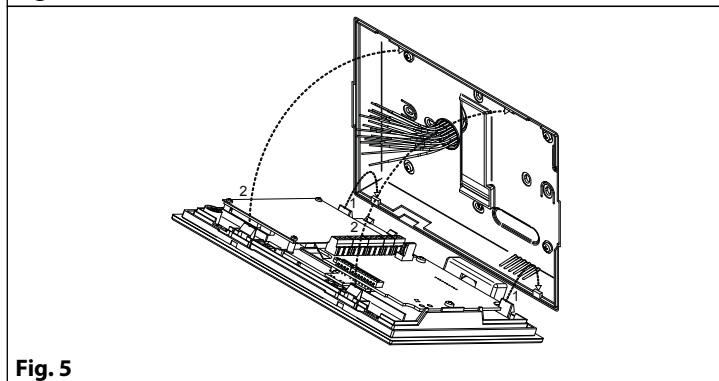

Fig. 5
4. Connect the wires using a flat screw driver then setup the dip-switches as per provided connection diagram or instruction sheet and fix the front part of the videophone to the back cover as shown in **Fig. 5**: hook first the bottom side then rotate the front part and hook the upper side;